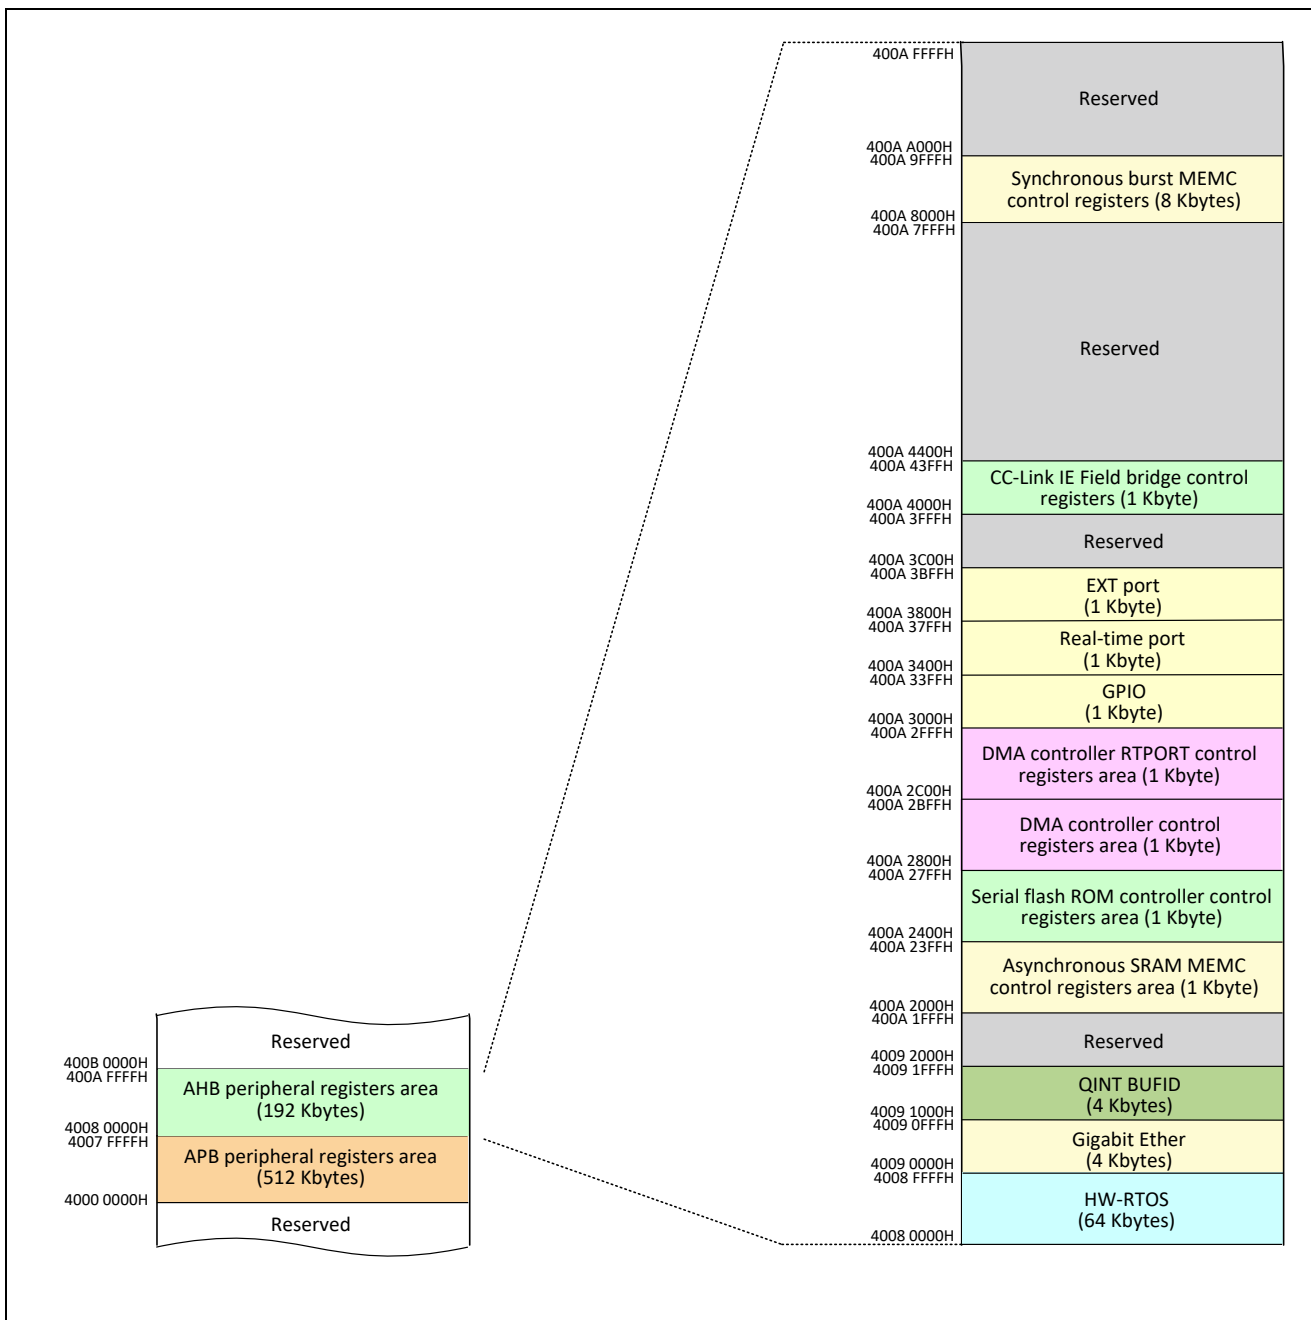

Figure 3.2 Memory Map (AHB Peripheral Registers Area)
- Note 1.** The upper 52 Kbytes of the AHB peripheral registers area cover the range from the GPIO area to the synchronous burst memory controller control registers. For details, refer to Figure 3.2 “Memory Map (AHB Peripheral Registers Area)”.